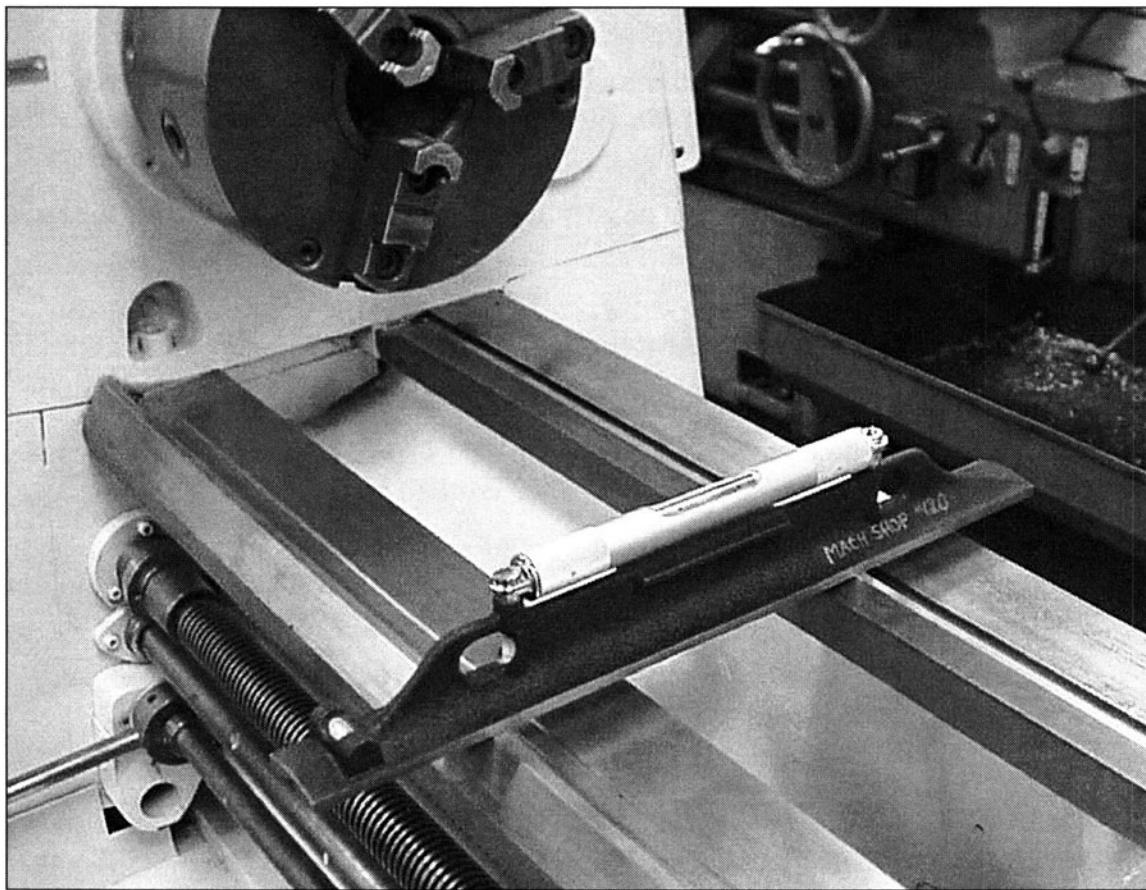

FIGURE 2-4 A precision level is used to line up this lathe. Once leveled, the lathe will cut with less taper.
31. *Level your lathe for a truer cutting lathe. (See Fig. 2-4)*